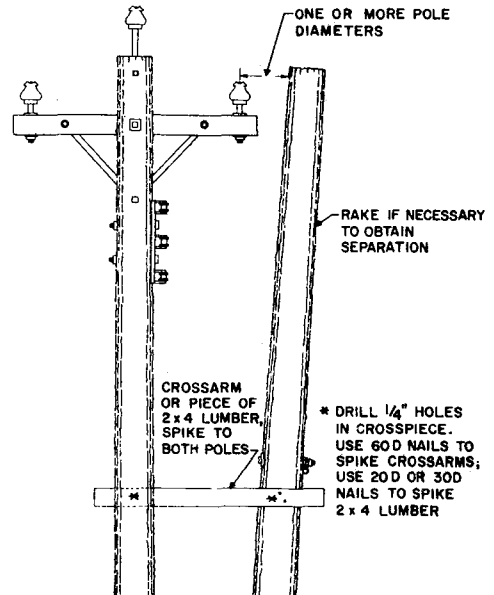

Fig. 5—Tying Together with Crossarm
7.07 Where the new pole is to be located laterally within 7 or 8 feet of the old pole, a crosstie consisting of an old crossarm, or a piece of 2- by 4-inch lumber may be used. Attach as shown in Fig. 5.